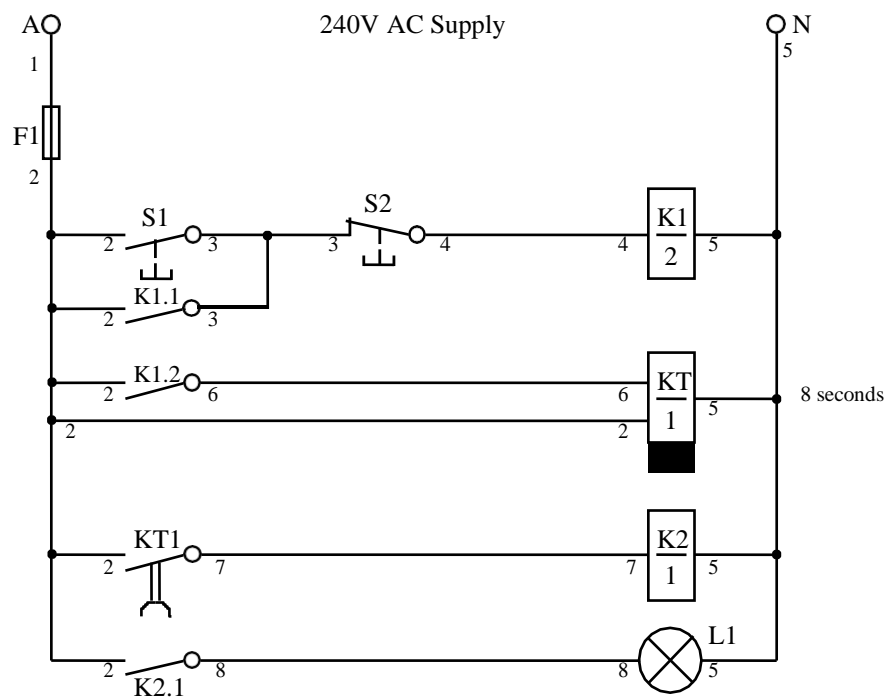

Figure 1
8. Describe the operation of the circuit shown in figure 1. In doing so describe the condition of the four power consuming devices for each of the following conditions –